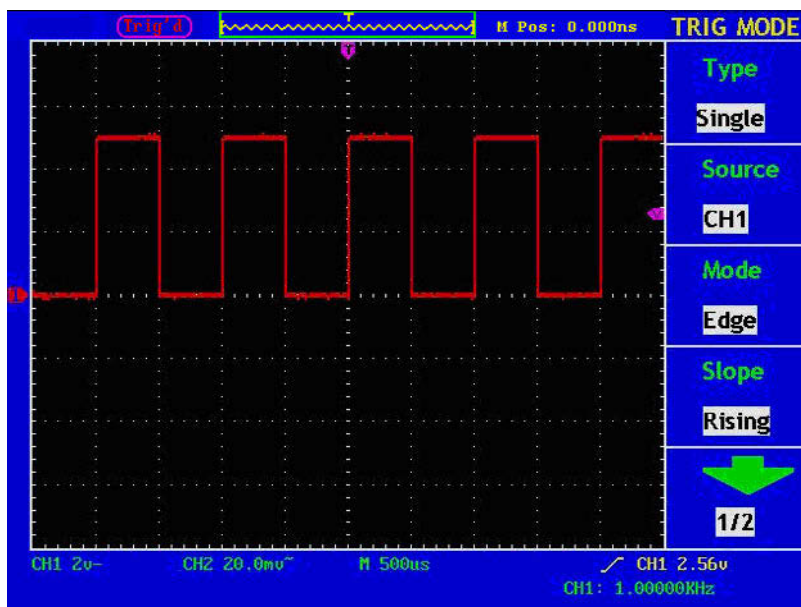
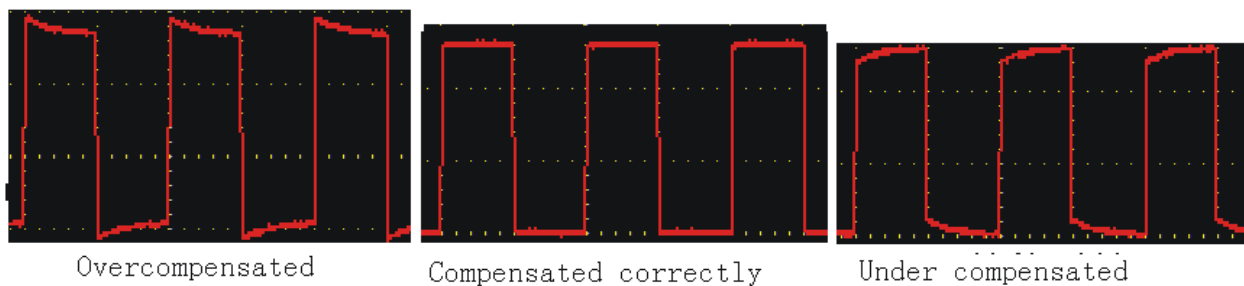

Figure 5. Auto set.
Figure 6. Displayed Waveforms of the Probe Compensation.
- 2 Check the displayed waveforms and regulate the probe till a correct compensation is achieved (see Figure 5 and Figure 6).